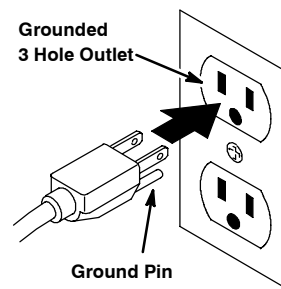

FIG. 24
3. Connect the charger's AC power supply cord to a properly grounded receptacle (Figure 24).